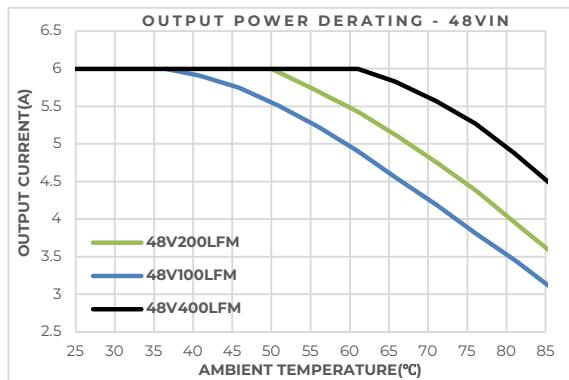

Figure 18. Output Current Derating for the Base Plate EBDW006A0U in the Transverse Orientation; Airflow Direction from VIN(-) to VIN(+); VIN = 48V .
Increased airflow over the module enhances the heat transfer via convection. The thermal derating of figures 18 shows the maximum output current that can be delivered by each module in the indicated orientation without exceeding the maximum THx temperature versus local ambient temperature (TA) for air flows of 0.5 m/s (100 ft./min), 1 m/s (200 ft./min), 2 m/s (400 ft./min).
Determine required airflow (V) (Use Figure 18): $V = 100$ LFM or greater